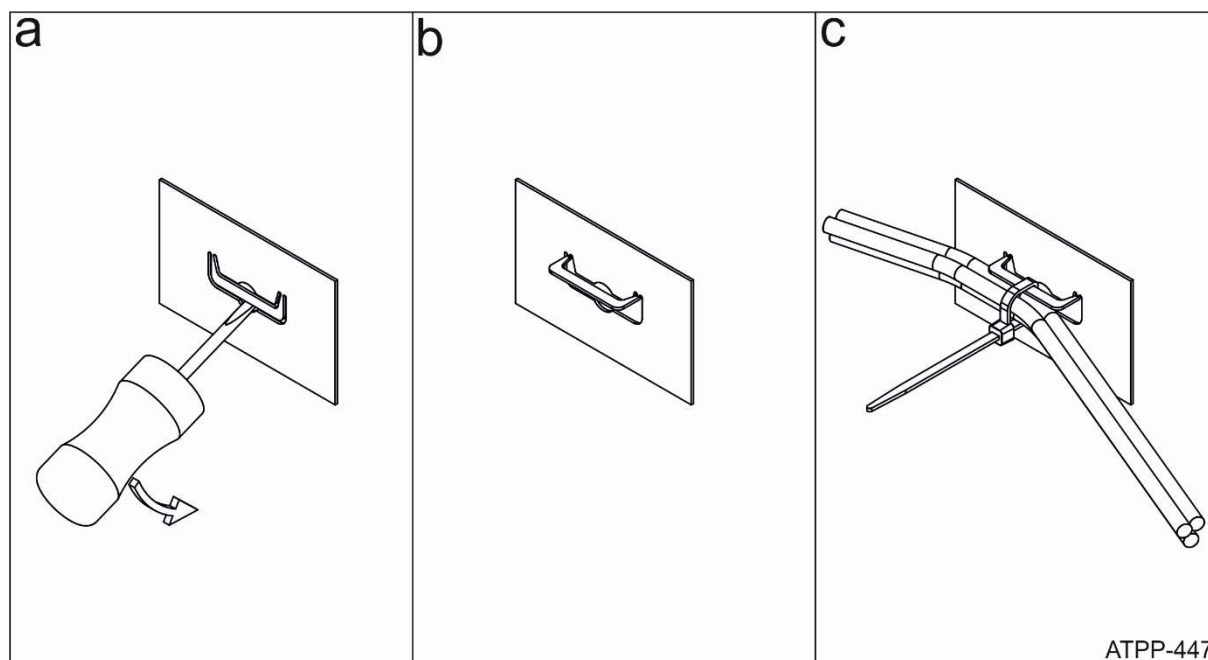

Fig. 3 Cable fixing method
8. In order to arrange the cables inside the enclosure, they should be placed with cable ties to the G detail. In order to use the G details, they must be levered first (ex. with a screwdriver) and bend to the vertical position, then use a cable tie to fasten the bundle of cables (Fig. 3).